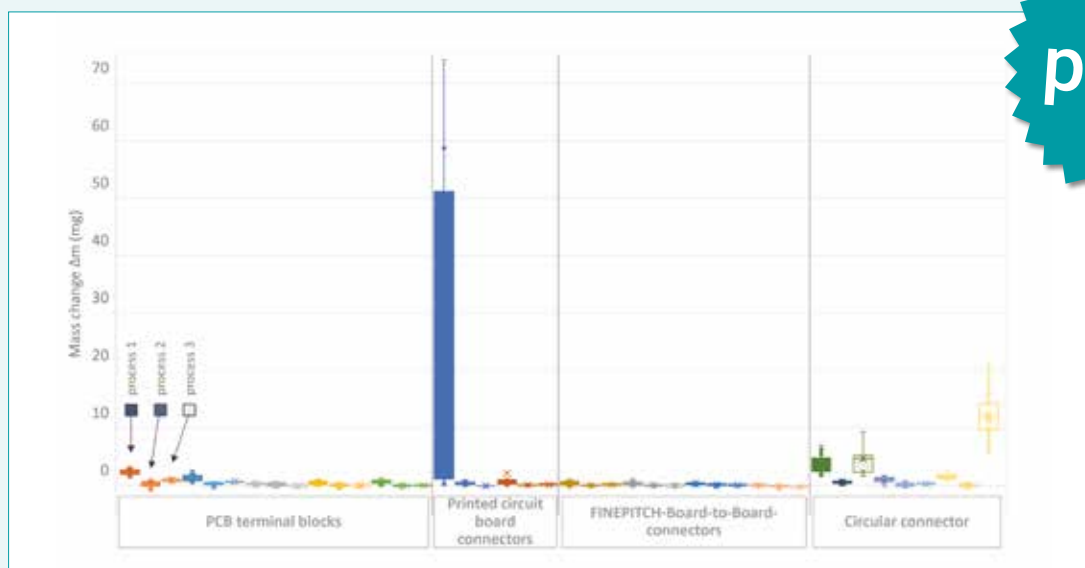
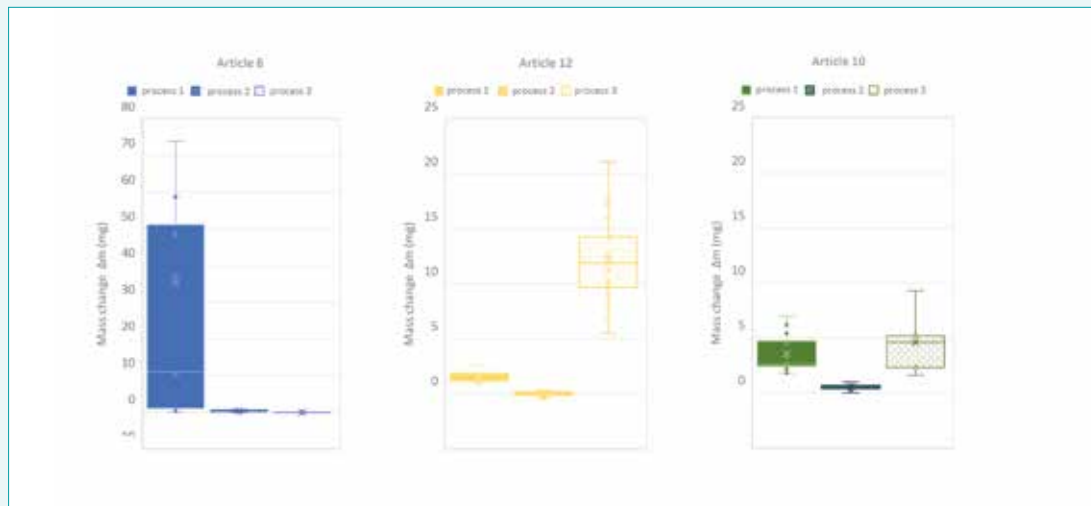

Figure 9: Summary of changes in mass for all items in processes 1, 2 and 3
Figure 10: Detailed illustration of changes in mass for items 6, 12 and 10 in the respective processes
Figure 9 shows the changes in mass for all items in the three investigated vapor phase soldering processes, as defined in the previous section. The graph clearly shows that significant changes in mass were measured for items 6, 10 and 12 in at least one of the utilized processes. Figure 10 provides a more detailed view of the changes in mass which occurred for these items in each process. Whereas a significant change in mass occurs for item 6 in process 1 only, a significant increase in mass is observed for item 12 in process 3. No significant changes in mass are observed for any of the items in process 2.
Galden® carryover was observed primarily for item 6 with the lift-dip method. No significant Galden® carryover was observed for the processes using injection methods in this case. The average amount of Galden® carried over in the lift-dip process is 35 mg or approximately 19 cubic millimeters per component, but figure 10 shows that the amount of carried-over Galden® demonstrates considerable deviation. In cases of large amounts of Galden®, carryover into the item's cups was also detected during visual inspection after processing. This indicates that the risk of Galden® carryover is increased in the case of cup-like components in the lift-dip process.